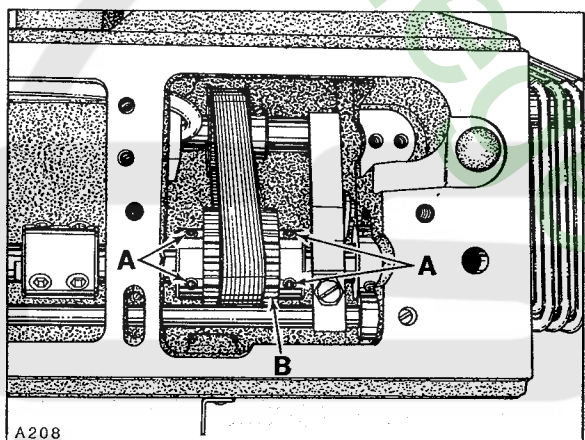
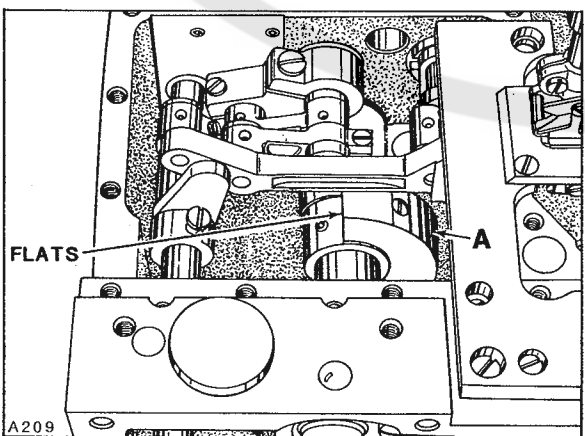

Fig. 3
Fig. 4
Loosen four screws (A, Fig. 3) in upper mainshaft sprocket (B) and hold handwheel so upper mainshaft and needle bar cannot move. While holding handwheel firmly, turn lower mainshaft to position feed crank counterweight (A, Fig. 4) with its FLATS perpendicular to the bottom of machine and facing away from the operator, as viewed in Figure 4. TORQUE screws (A, Fig. 3) to 36 in-lbs (41 cm/kg).